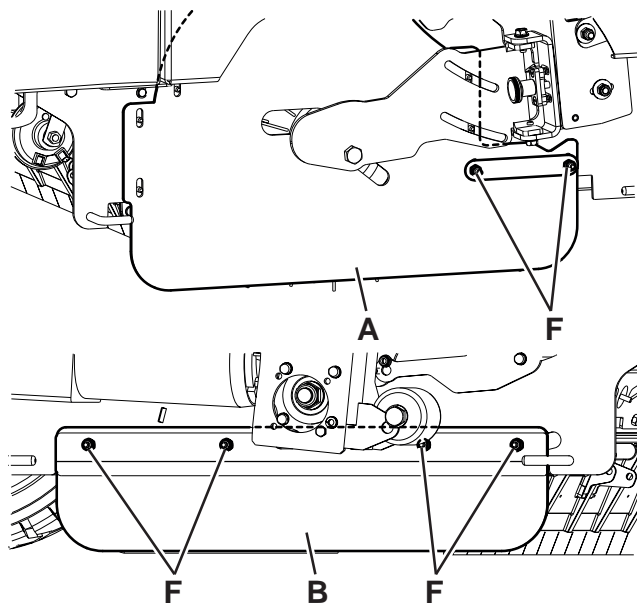
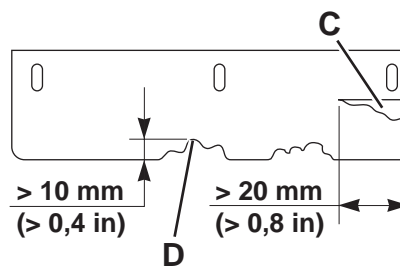
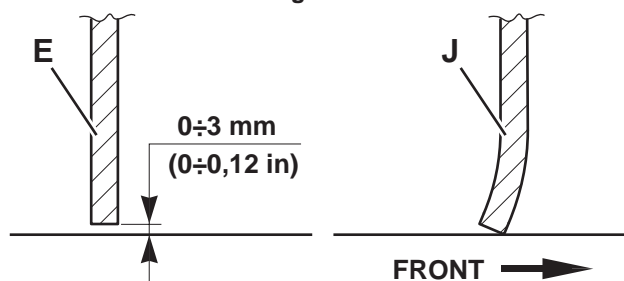
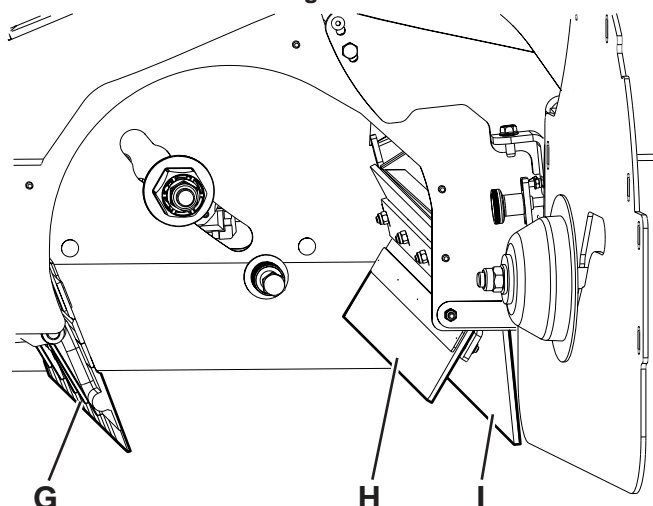

Figure 18
Figure 19
Figure 20
Figure 21
5. Check the condition of the side skirts (A, Fig. 18) and (B). Replace the skirts when they have cuts (C, Fig. 19) larger than 20 mm or cracks/tears (D) larger than 10 mm (for skirt replacement, refer to the Service Manual).
6. Check that the distance from the floor of the side skirts (A, Fig. 18) and (B) is within 0 - 3 mm (E, Fig. 20). If necessary, loosen the nuts (F, Fig. 18) and adjust the skirt position. Finally, tighten the nuts (F).
8. Check the condition of the front (G, Fig. 21) and rear skirts (H) and (I). Replace the skirts when they have cuts (C, Fig. 19) larger than 20 mm or cracks/tears (D) larger than 10 mm.
9. Check that the front (G, Fig. 21) and rear skirt (I) slightly rub ground without being detached from it (J Fig. 20).